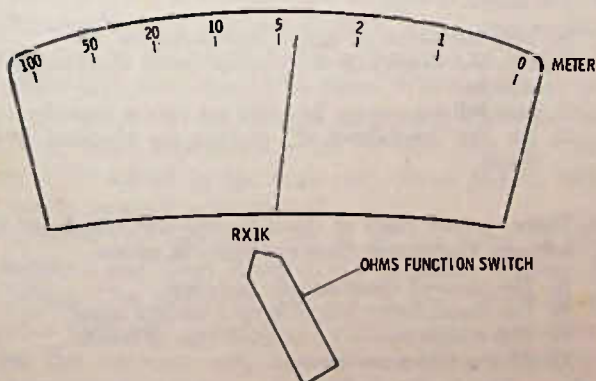

Fig. 9-21. Drawing for Question 7.
7. In Fig. 9-21, the ohmmeter is reading